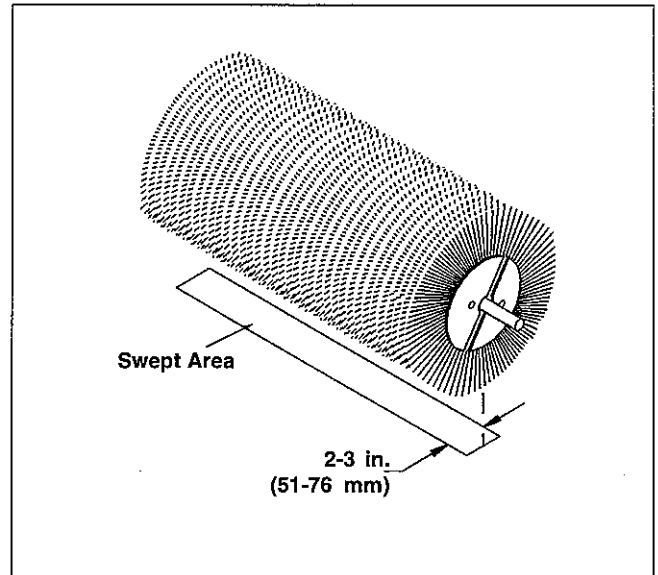

figure 19
4. Raise the sweeper and back away; switch off the engine and remove the key. The brush pattern left in the dust should be 2-3 in. wide, running the entire length of the brush. (Compare the swept area with figure 19.)